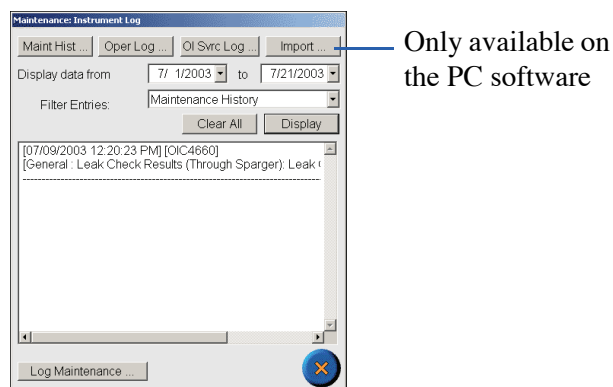

Figure 7.9. Maintenance: Instrument Log dialog box
3. Press **Instrument Log** to access the Maintenance: Instrument Log dialog box as shown in Figure 7.9.